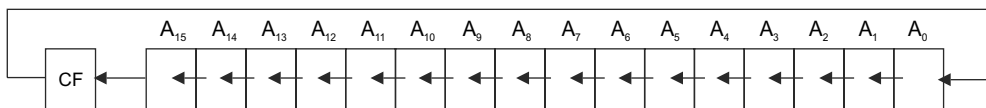

Fig. 6.26 Rotate left through carry
The RCL instruction rotates the contents of the destination operand left by one or by the specified number of bits in CL through Carry Flag (CF). After each rotate operation, the carry flag is pushed into LSB and the MSB of the operand is pushed into carry flag. The remaining bits are subsequently shifted left as shown in Fig. 6.26. The SF, PF, ZF are left unchanged. The object code of RCL instruction is